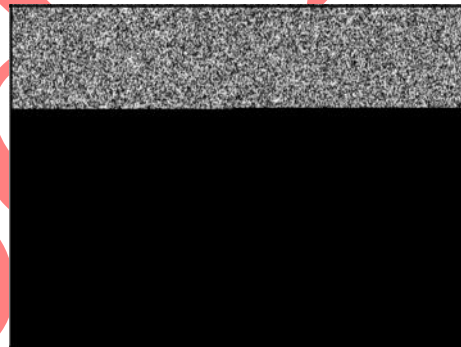

Figure 65
6. Insert the choke plate into the choke shaft with the dimples toward the fuel inlet side of the carburetor. Dimples center the choke plate on the shaft (**A**, Figure 65).